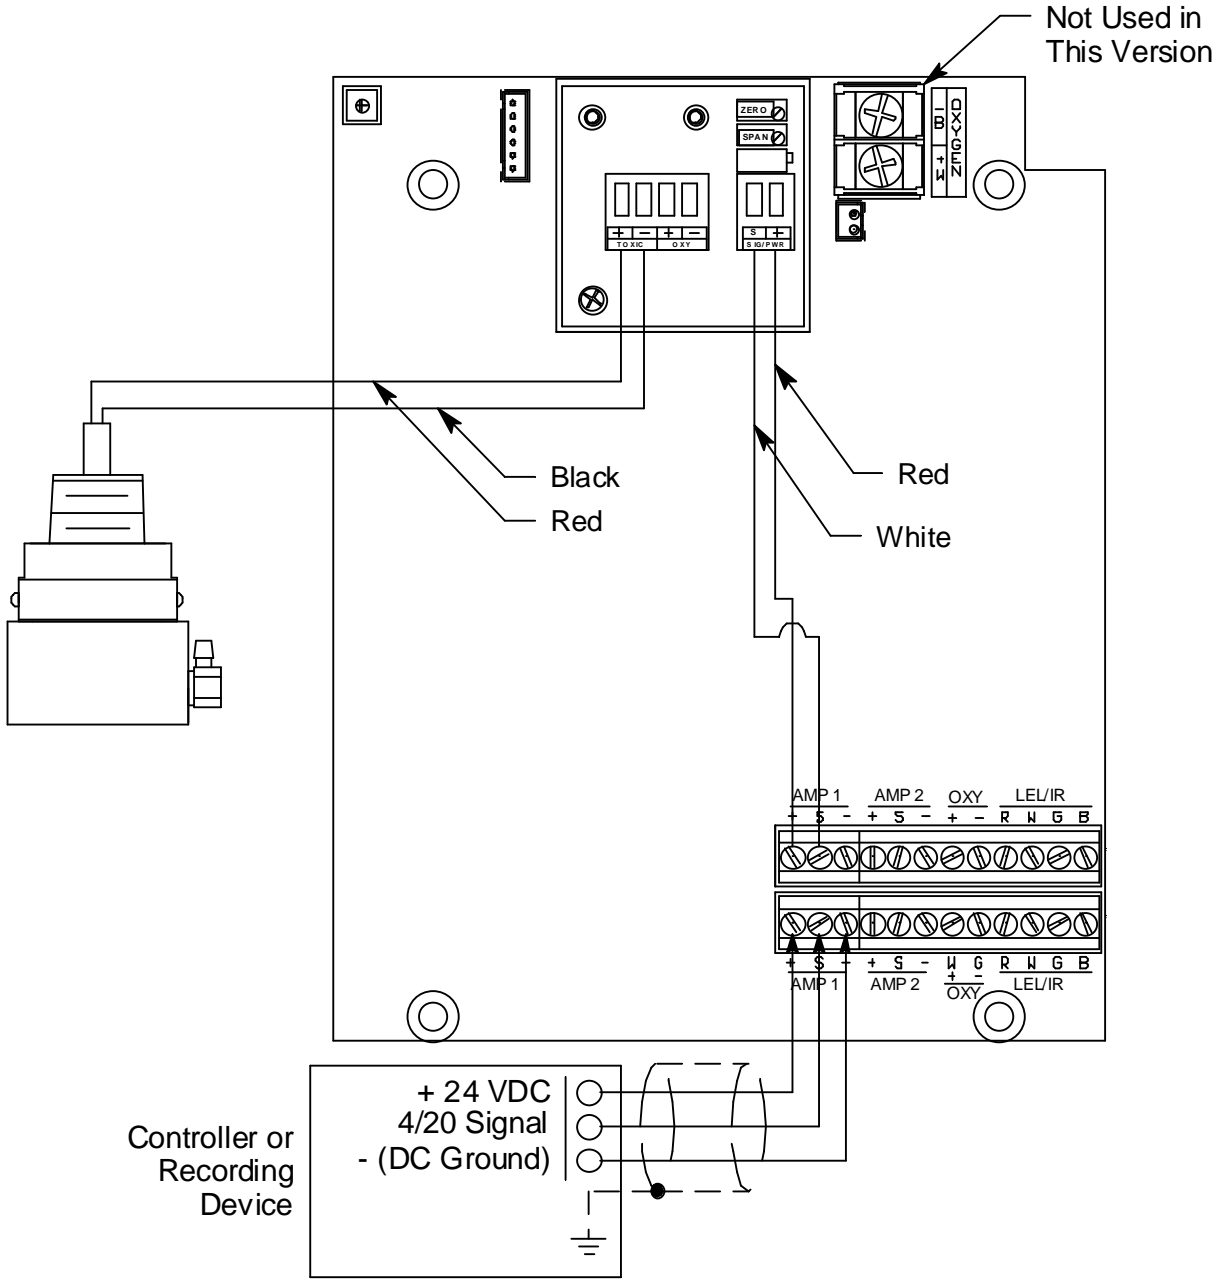

Figure 6: Wiring the Sample-Draw Detector to a Controller
5. Connect the cable to the sample-draw detector’s interconnect terminal strip as shown in Figure 6.
- Connect the wires to the applicable detector/transmitter terminal strip at the controller as shown in Figure 6. Refer to the controller operator's manual and the controller detector head specification sheet for the 35-3001A-04-02 for detector/terminal strip connections specific to the controller.